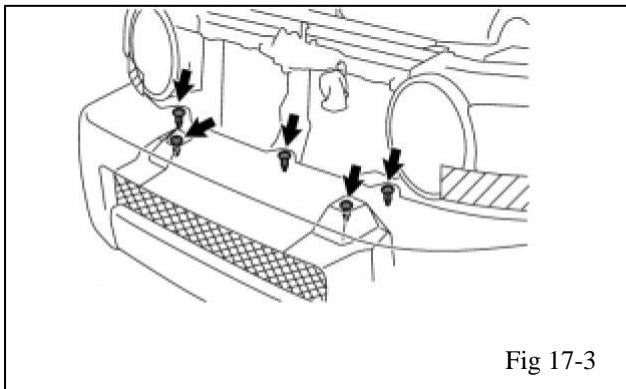

Fig 17-3
- (c) Remove the 5 clips (Fig 17-3).